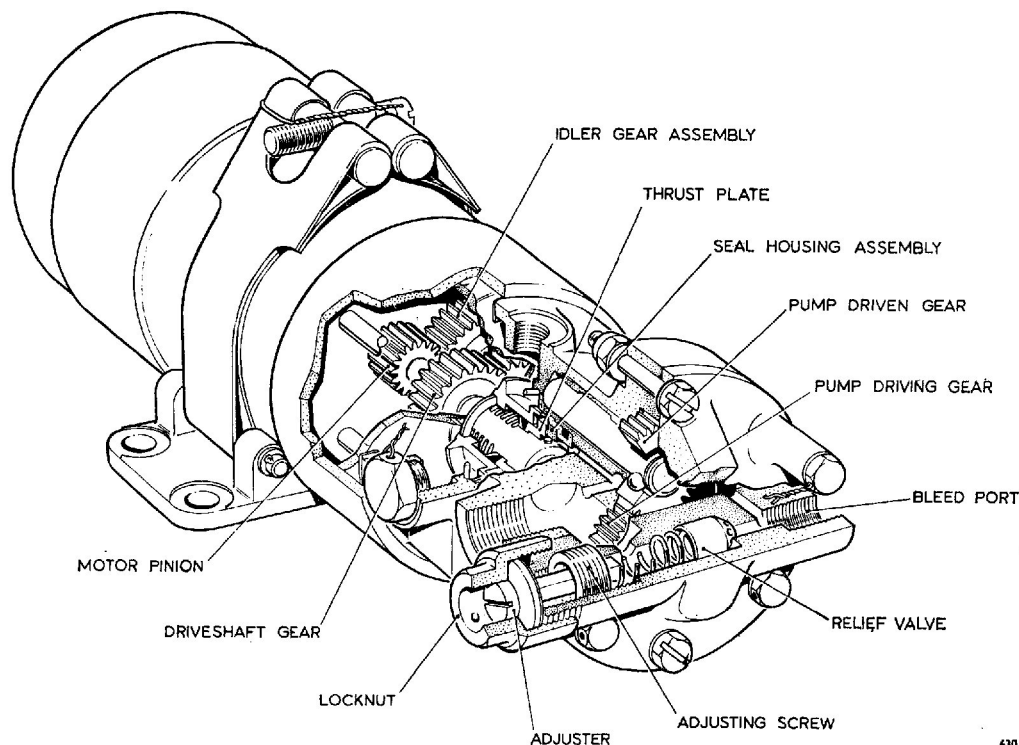

Fig. 2. Sectional view of DP022-1 pump
4. The gearbox, (Fig. 2), comprises a gearcase assembly and an idler assembly. The gearcase houses an oilite bush, which supports one end of the idler spindle, and locates on spigots formed on the motor end plate and the pump body. The idler assembly consists of a gearwheel and a pinion mounted on a common spindle and secured by a split taper pin. The gearwheel is engaged with the motor
5. The pump assembly (Fig. 2) consists of an aluminium alloy body, two shaft mounted spur gears, a seal housing assembly, a drive shaft assembly and a relief valve assembly (pump cover).